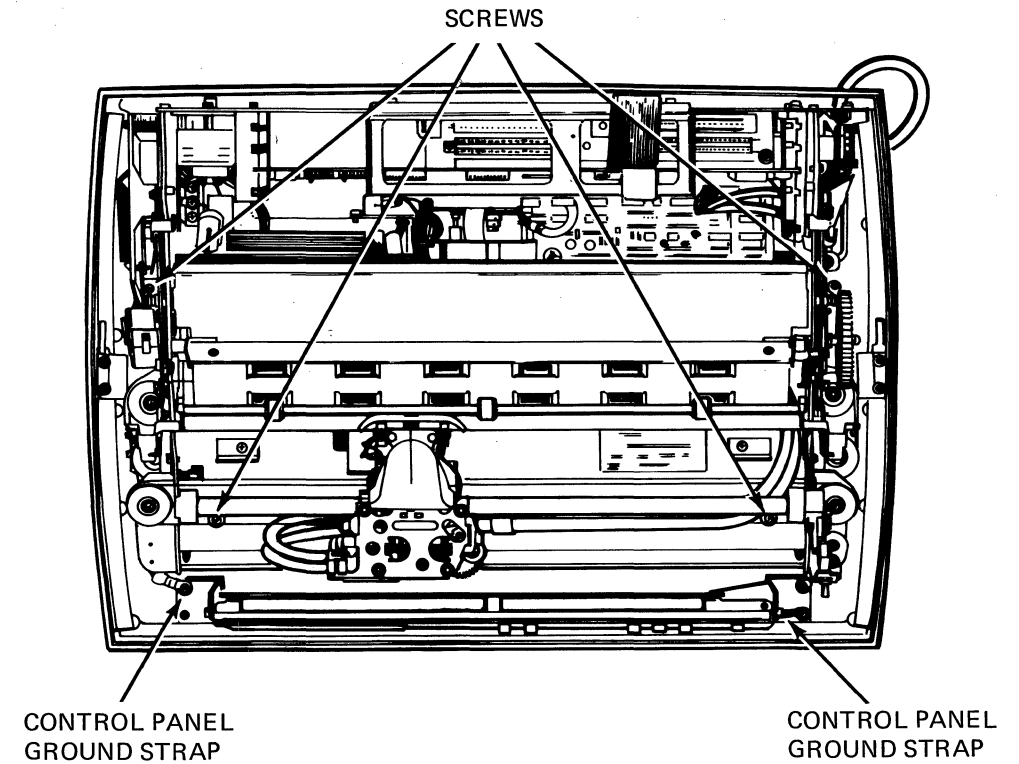

Figure 4-6 Printer Mechanism Base Retaining Screws
- e. For models with a control panel, remove the control panel ground straps (see Figure 4-6).
- g. Remove the four screws securing the printer mechanism to the base (see Figure 4-6) and lift the mechanism out of the base.